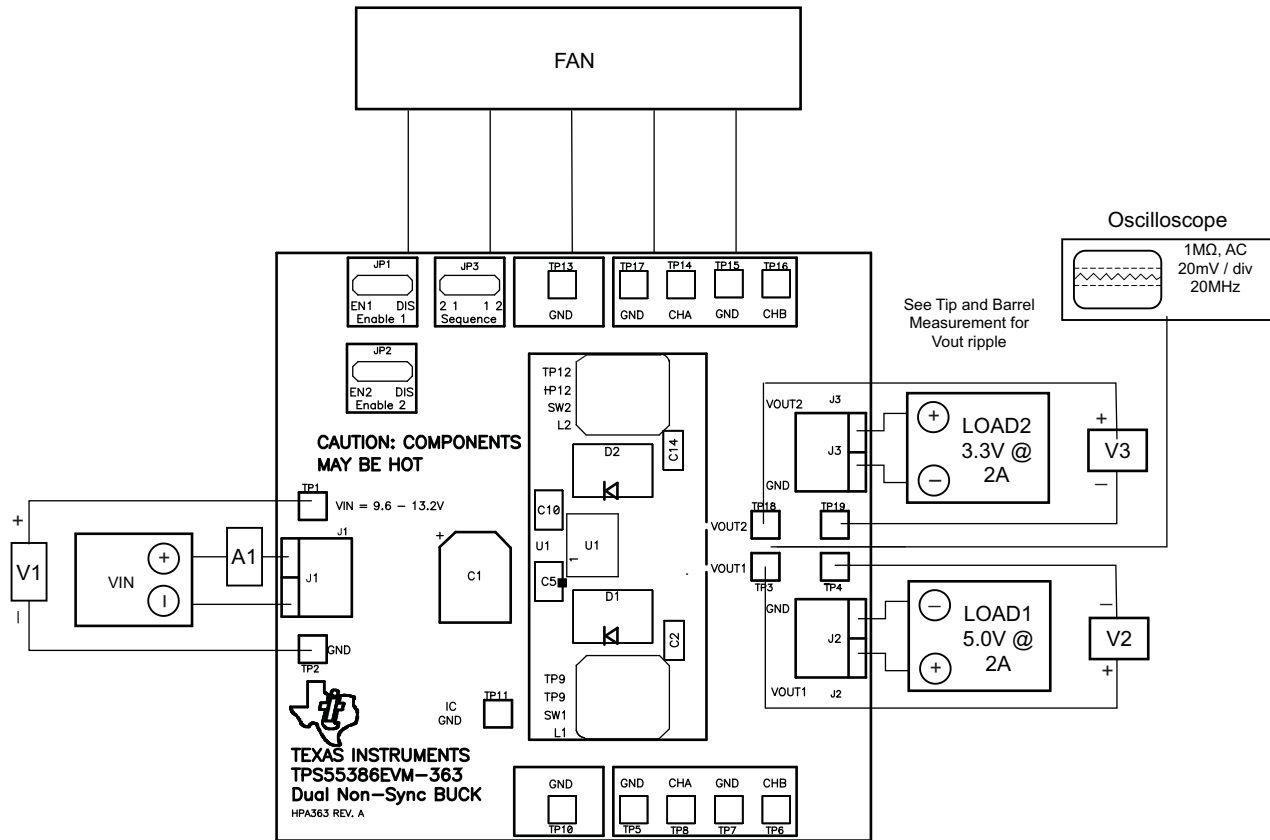

Figure 2. TPS55386EVM-363 Recommended Test Set-Up
Shown in Figure 2 is the basic test set up recommended to evaluate the TPS55386EVM-363. Note that although the return for J1, J2 and JP3 are the same system ground, the connections should remain separate as shown in Figure 2.
2. Prior to connecting the DC input source,  $V_{IN}$ , it is advisable to limit the source current from  $V_{IN}$  to 5.0A maximum. Make sure  $V_{IN}$  is initially set to 0V and connected as shown in Figure 2.
3. Connect the ammeter A1 (0-5A range) between  $V_{IN}$  and J1 as shown in Figure 2.
4. Connect voltmeter V1 to TP1 and TP2 as shown in Figure 2.
5. Connect LOAD1 to J2 as shown in Figure 2. Set LOAD1 to constant current mode to sink 0Adc before  $V_{IN}$  is applied.
6. Connect voltmeter, V2 across TP3 and TP4 as shown in Figure 2.
7. Connect LOAD2 to J3 as shown in Figure 2. Set LOAD2 to constant current mode to sink 0Adc before  $V_{IN}$  is applied.
8. Connect voltmeter, V3 across TP18 and TP19 as shown in Figure 2.